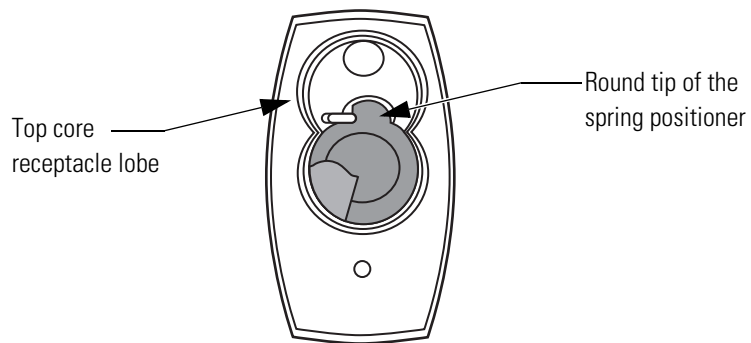

Figure 2.15 Inserting the locking cam (bottom view)
4. Insert the locking cam into the bottom core receptacle lobe so that the round tip of the spring positioner is pointed toward the top core receptacle lobe, as shown in Figure 2.15.